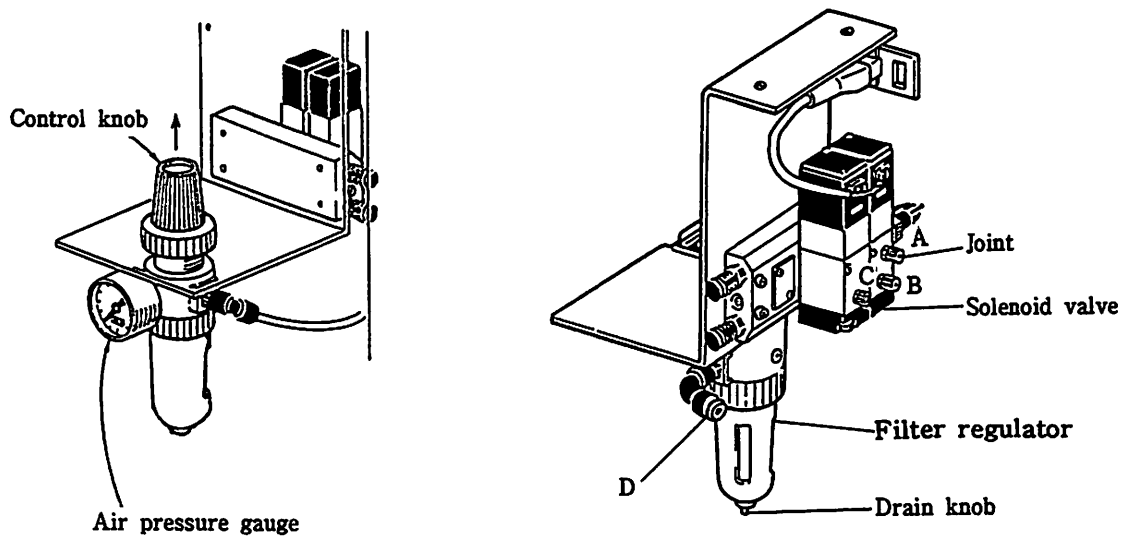

Fig. 4.6
- (1) Connect three air tubes ("A"~"C") to solenoid valve tube fittings ("A"~"C") shown in Fig. 4.6.